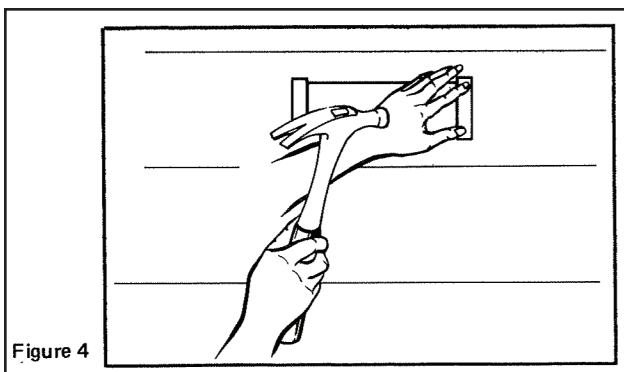

Figure 4
2. Nail down siding corners. Trim opening in siding with casing strips. (Fig. 4).